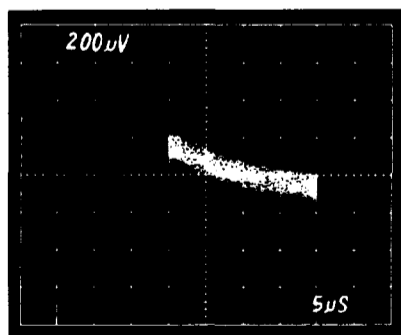

Figure 12. Dielectric Absorption
During T_B , the CONTROL line is high, the AD1154 is in the sample mode and the analog input charges the hold capacitor to +10 V. During T_C the analog input to the SHA is switched to ground, effectively shorting the hold capacitor for the remainder of the sample period. During T_A , the SHA is switched into hold mode and the hold capacitor is open circuited. The dielectric rebound can be observed on the oscilloscope during T_A . Refer to Figure 12.
3. Pick $(R_1 || R_2) \cdot C_1$ to be equal to the approximate time constant (T_{CONST}) of the dielectric rebound on the oscilloscope (see photo in Figure 12).